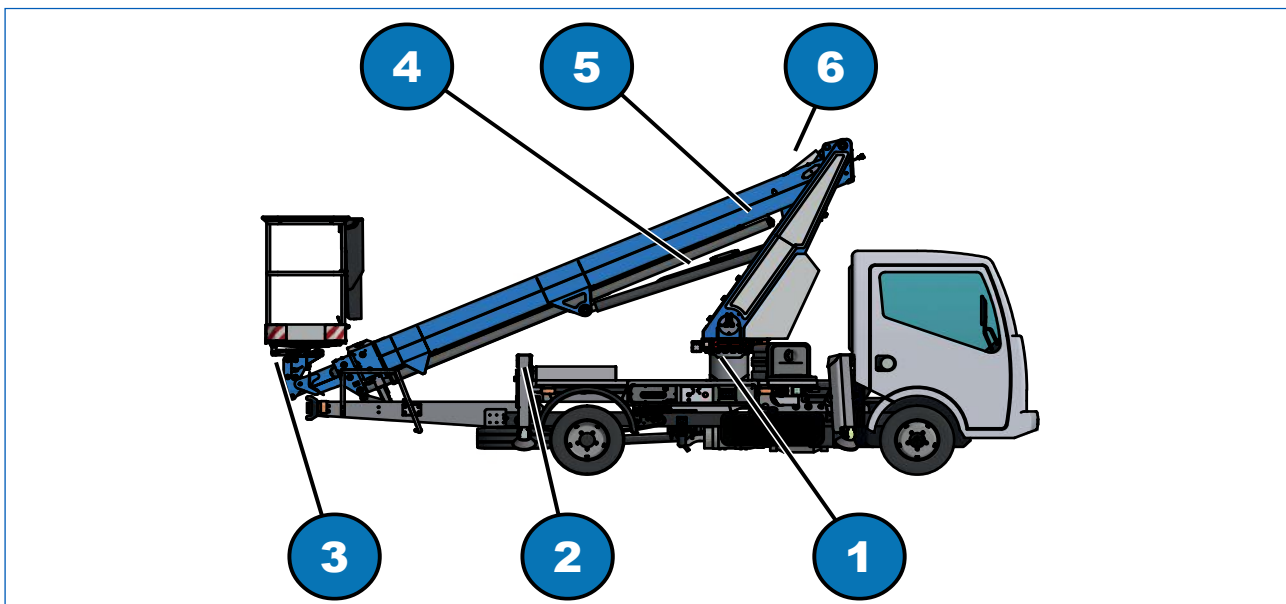

Fig. 5.7
The on/off (Fig. 5.7)
The stabilisation control device consists of two micro switches (Fig. 5.7, 1) and (Fig. 5.7, 2), found on each stabiliser; a wire displacement sensor (Fig. 5.7, 3) found on the side of the front stabiliser beams; and a micro-switch (Fig. 5.7, 4) found on the vehicle's rear springs.
Micro-switch (Fig. 5.7, 1) indicates the complete closure of the plate for moving on the street; micro-switch (Fig. 5.7, 2) controls resting on the ground; wire displacement sensor (Fig. 5.7, 3) controls the complete extension of the stabiliser; and micro-switch (Fig. 5.7, 4) indicates minimum stabilisation.
- when the stabilisers are properly extended, the four LEDs, 1, 2, 3 and 4 next to the stabilisation controls (see Fig. 4.3) light up, indicating that the micro switches are working correctly (Fig. 5.7, 2) and (Fig. 5.7, 4);
- retract all the stabilisers and check that the LED in the cab (see Fig. 4.7 4) is illuminated, indicating that the micro switches are operating correctly (Fig. 5.7, 1).